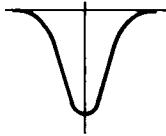

Fig. 11
**Note 1:** If the signal from the sweep generator is weak, make sure that the waveform becomes maximum and symmetrical as shown in Fig. 11.